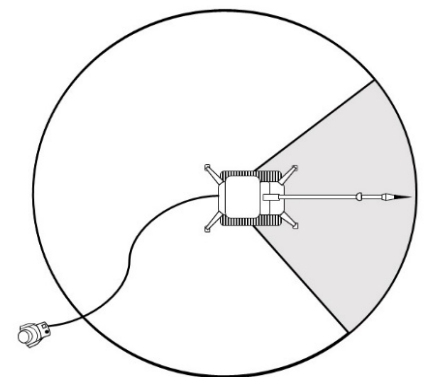

Figure 1: Example of machine operating risk zone and remote operator position.
- Always stay outside the risk zone when the machine is in operation (Figure 1), and do not enter until the machine is put into emergency stop mode or deenergized.